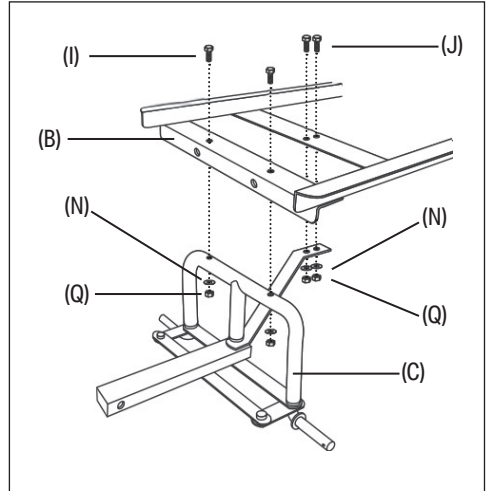

Fig. 3
3. Attach the base frame to the front axle assembly - Fig. 3:
- a. Place the base frame (B) on top of the front axle assembly (C) so that the flat crossbar aligns with the moving arm and the bracketed crossbar wraps around the arch.
- b. Pass two M8 x 35mm countersunk bolts (I) each down through the bracketed crossbar and arch and secure them in place with an M8 washer (N) and an M8 nylon-insert lock nut (Q).
- c. Pass two M8 x 20mm hex bolts (J) each down through the flat crossbar and moving arm and secure them in place with an M8 washer (N) and an M8 nylon-insert lock nut (Q).